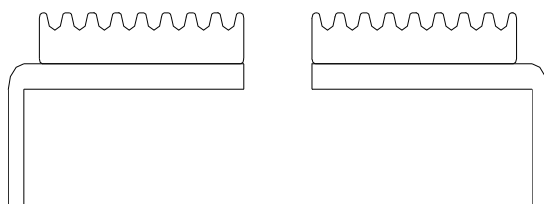

Fig 7.7.3
- e. Move the carriage to the marked position on belt, put on the connecting-pole and fix the connecting-block. Take care of the direction of connecting-block to fix. Refer to Fig. 7.7.3